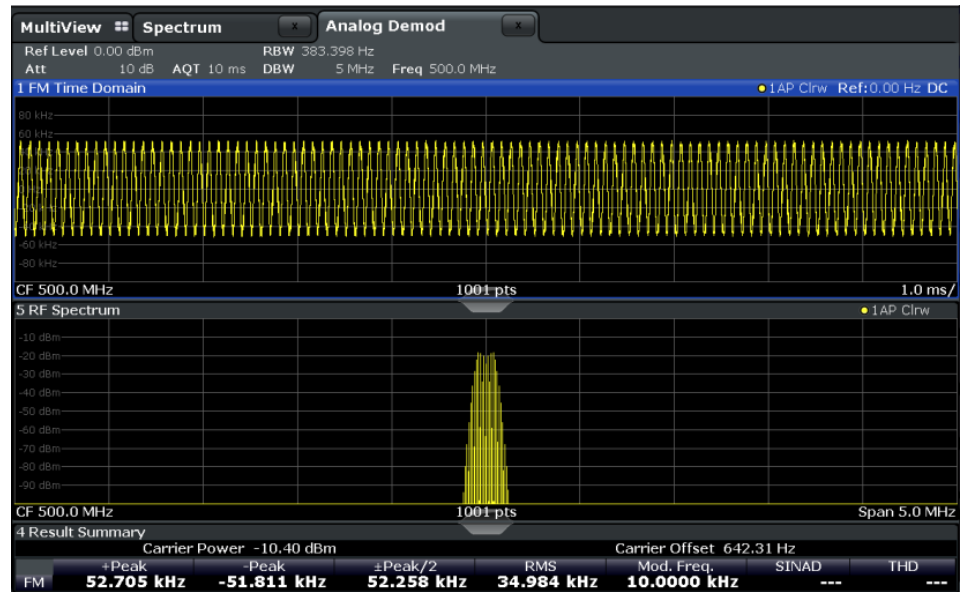

Figure 9-4: RF spectrum of FM signal with default demodulation bandwidth = 5 MHz
8. As you can see in Figure 9-4, the default demodulation bandwidth of 5 MHz is much too large - the actual signal takes up only a small part of the displayed range. That means that any noise or additional signals apart from the FM signal of interest may be included in the measured results. Select the "Demod BW" softkey and reduce the value to 200 kHz.